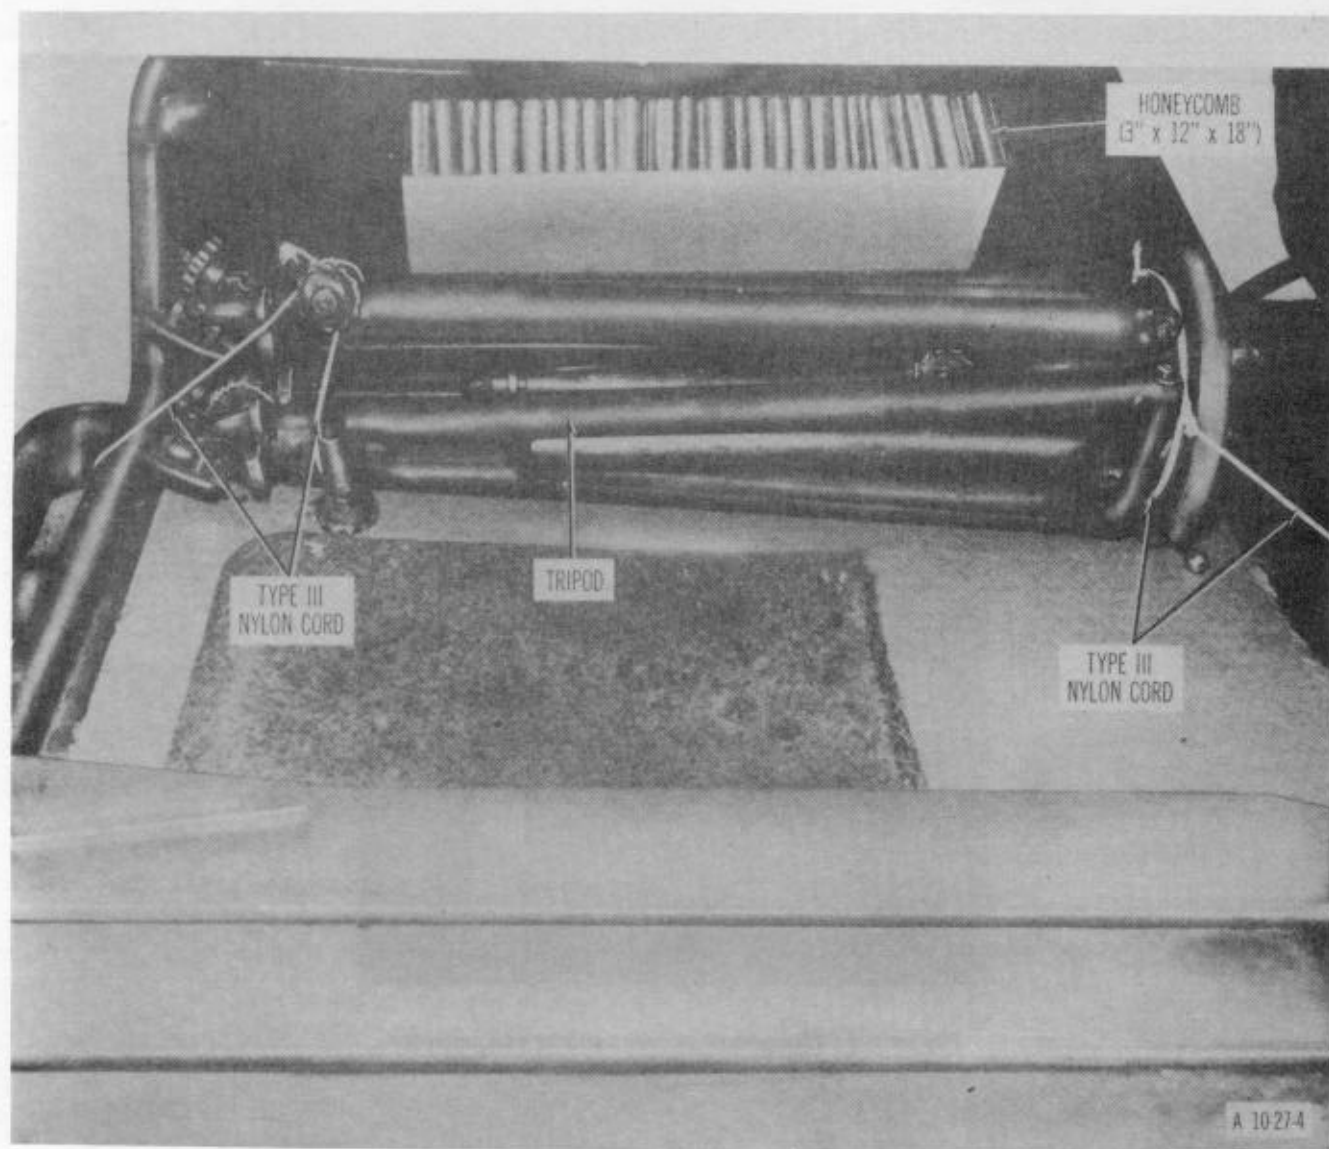

Figure 6-9. Tripod stowed.
d. Stowing Tripod. Position tripod in rear of vehicle with a 3- by 12- by 18-inch piece of honeycomb between bracket and tripod (fig 6-9). Secure tripod with type III nylon cord to rear frame of driver's seat and to footman loop on rear of vehicle.